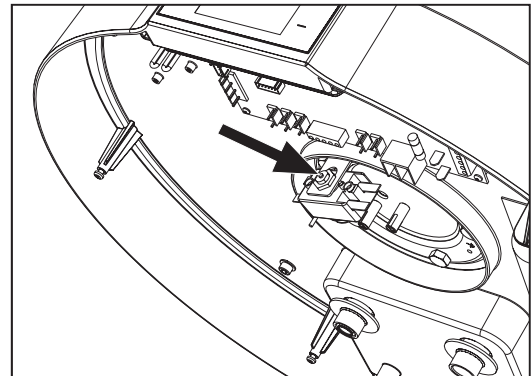

fig. 66- Safety thermostat reset
- Manually reset the tripped safety thermostat (fig. 66). In